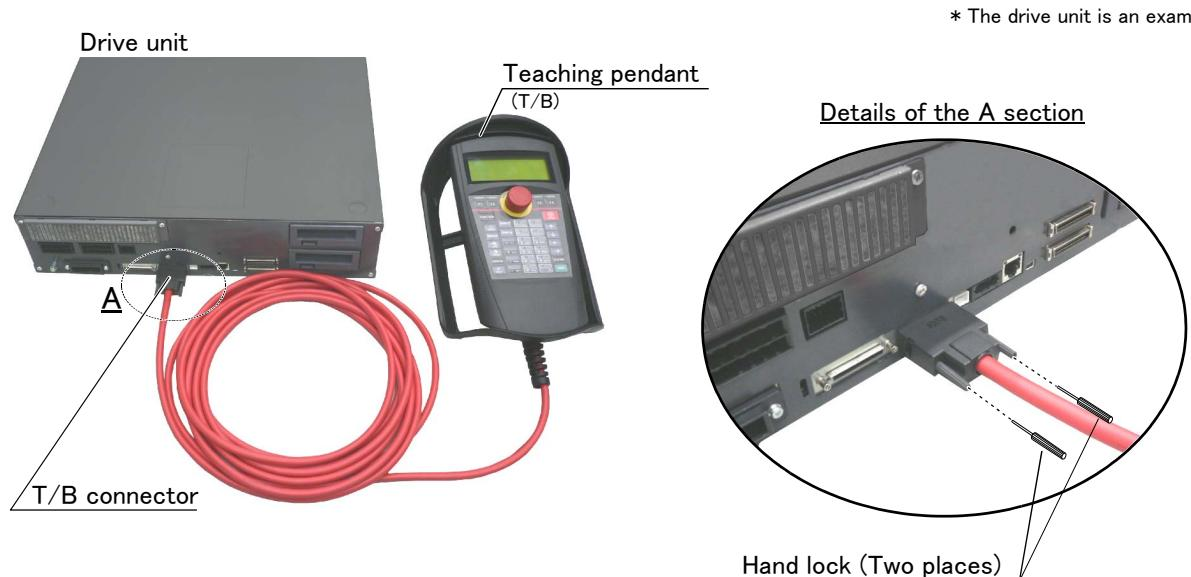

Fig. 4-7 : Installing and removing the T/B (CR751 drive unit)
- 2) Connect the T/B connector to the drive unit's T/B connector. Make sure to fix it securely by fastening the hand locks (in 2 places), as shown in Fig. 4-7.